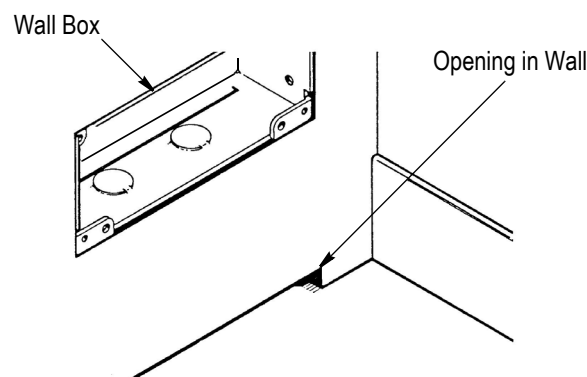

Figure 3
1. Cut an opening approximately 152.4×12.7 mm [6.0×.50 in.] in the wall just above the floor for the power cable to exit. See Figure 3.
1. Cut an opening approximately 152.4×12.7mm [6.0×.50 in.] in the wall just above the floor for the communications cable to exit. See Figure 3.